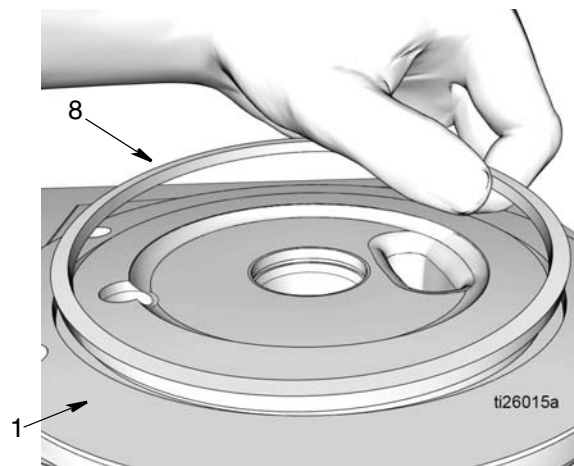

FIG. 48
7. Apply a thin layer of grease to square o-ring (8). Install square o-ring (8) in groove in the pump base (1) as shown in FIG. 48.